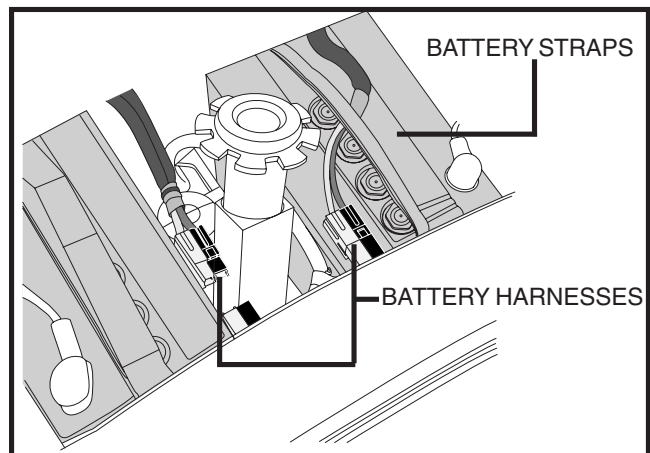

Figure 13. Battery Harnesses
6. Unplug both black and white 2-pin battery harnesses. See figure 13.